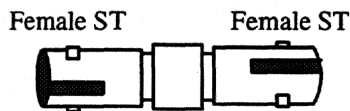
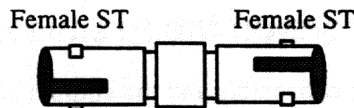

Figure 6-11 Single-Mode (or Multi-Mode) Coupler (all Metal), Female ST to Female ST.
Figure 6-18 Multi-Mode (or Single-Mode) Coupler (all Metal), Female ST to Female ST.
6. *Single-Mode (or Multi-Mode) ST to ST Coupler.* The single-mode (or multi-mode) ST to ST coupler is shown in Figure 6-11; note this is the same coupler as described and shown in Figure 6-18. It is all metal and has a female ST connector at either end so as to join two male-ended single-mode (or multi-mode) cables. (Referred to as “S” in cable diagrams beginning with Figure 6-21.)
5. *Multi-Mode (or Single-Mode) ST to ST Coupler.* The multi-mode (or single-mode) ST to ST coupler is shown in Figure 6-18; note this is the same coupler as previously described and shown in Figure 6-11. It is all metal and has a female ST connector at either end so as to join two male-ended multi-mode (or single-mode) cables. (Referred to as "S" in cable diagrams beginning with Figure 6-21.)